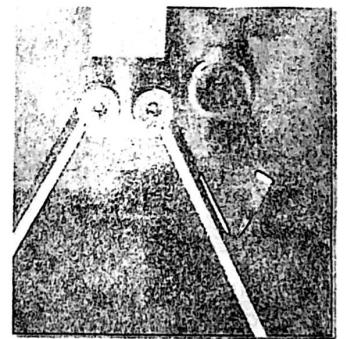

Figure 9C
**Step 5:** Place the blade on the left arm of the steel nearest the ferrule with the spine in the preferred position† (see Figure 9C). Keeping the edge in constant contact with the arm of the steel, slowly draw the knife toward your body. The blade should "flick" inward slightly after the length of the blade has been steeled.